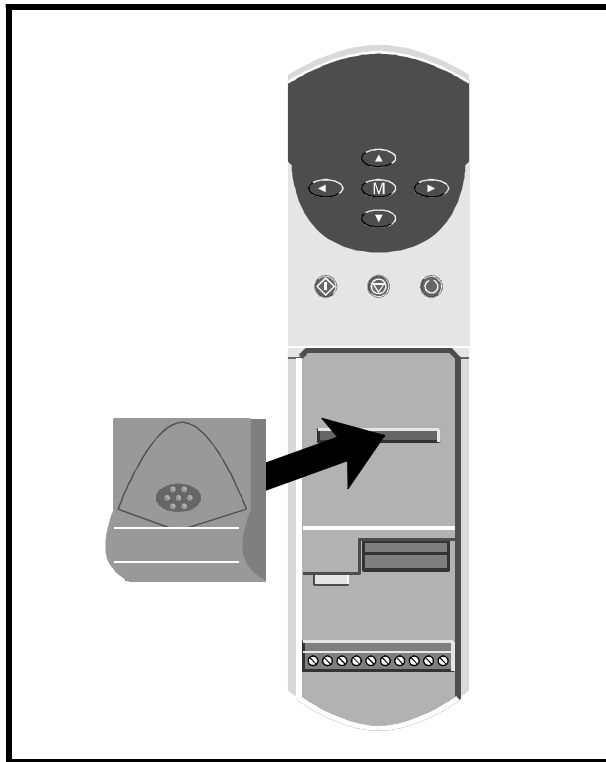

Figure 1 Inserting the UD55 in the Unidrive
- 5 Position the multi-way connector on the rear of the UD55 over the connector in the Drive (see Figure 1), and press on the thumb pad to push the UD55 into place.